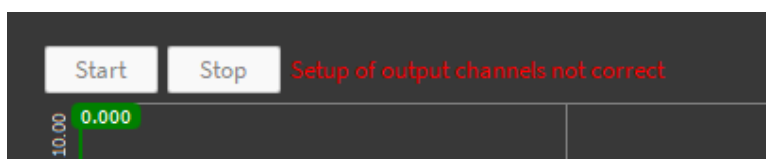

Fig. 4.15: Warning when using analog output channel with wrong mode in Stream Output Instrument
**Note:** Only channels with the mode StreamOutput can be used in the instrument (see above). If analog output channels are used, which have another mode selected in the channel settings, a warning appears in the instrument itself, see Fig. 4.15. In this case, open the channel settings of the used channel and check the selected mode.